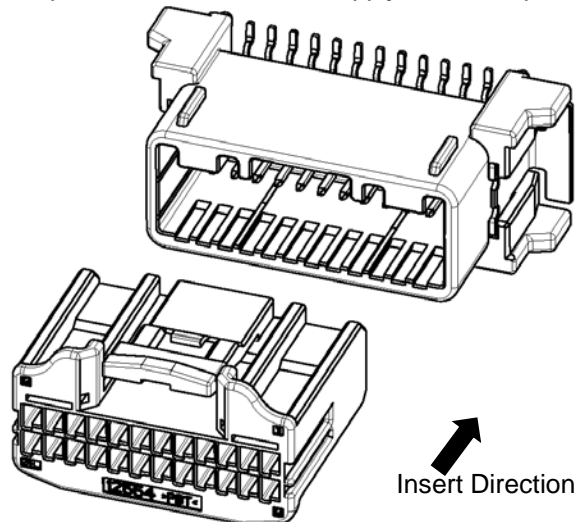

Fig.3
(3) Insert the proper female housing into the male housing straight with same direction as shown in Fig.3. The operation is finished when you hear the click sound and can not insert further. When you can not insert the housing, do not insert by force, and check the items in (1),(2).